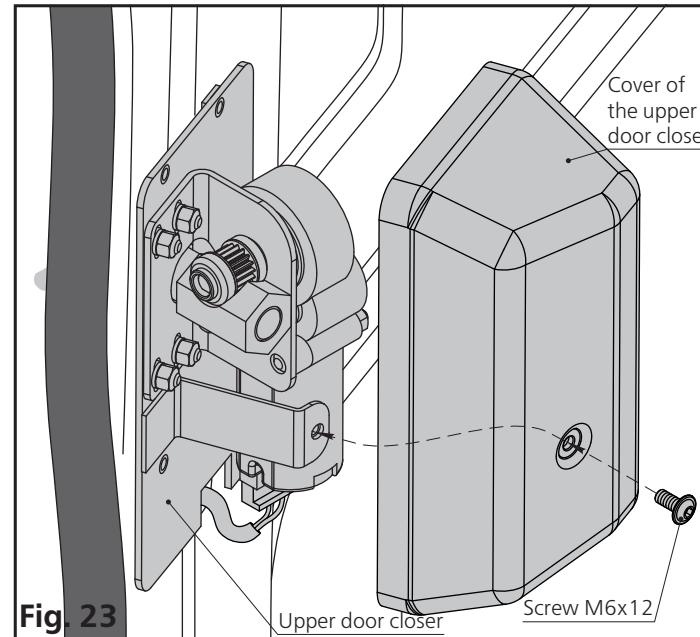

Fig. 23
1. Fix the cover of the upper door closer using the M6x12 screw (Fig. 23).